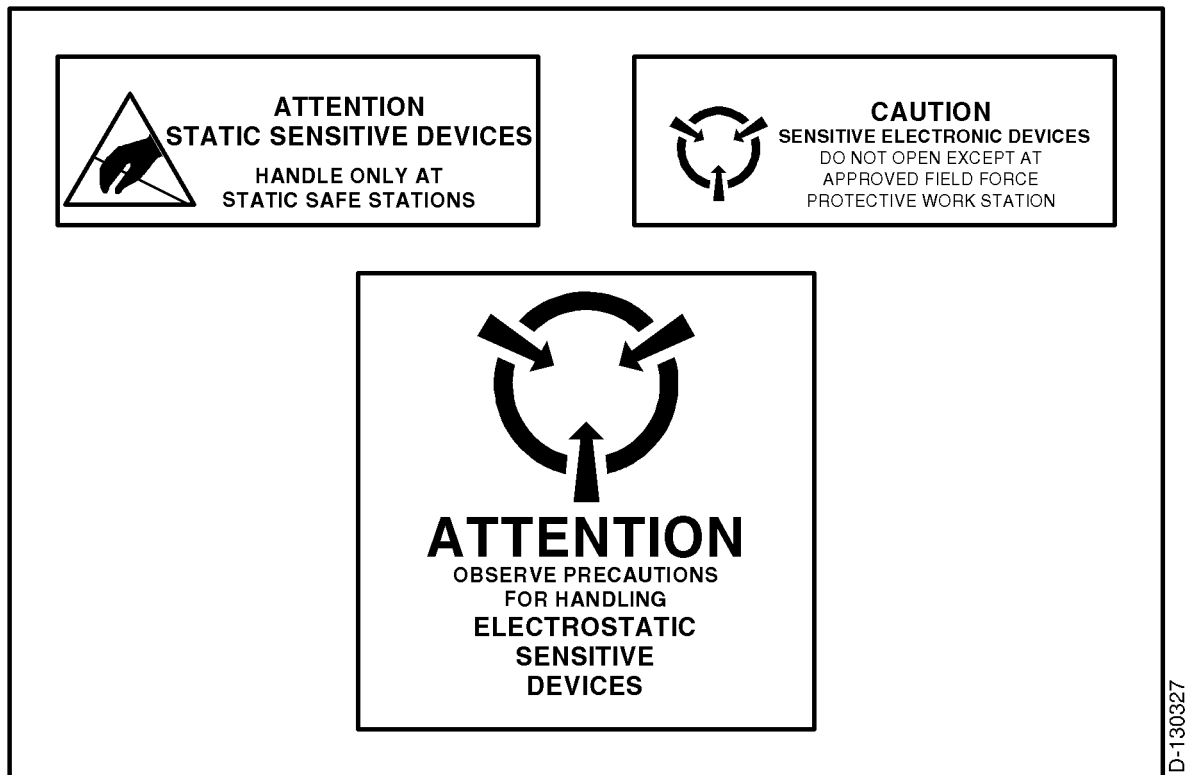

Figure Intro-1. ESDS Symbols
- (1) The symbols in Figure Intro-1 may be used to identify static sensitive (ESDS) devices.